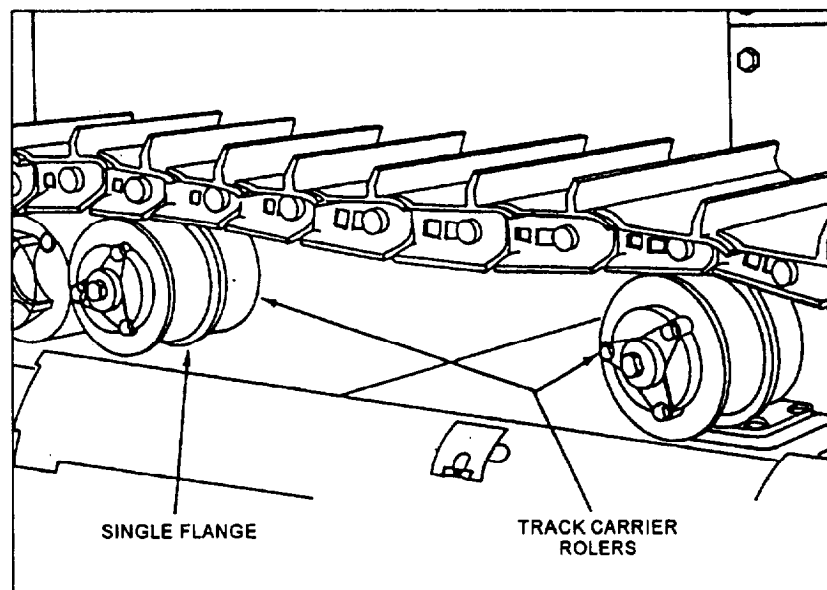

Figure 6-24.—Track carrier rollers.
- Carrier rollers (fig. 6-24) are single-flanged rollers mounted on brackets, which extend above the track frame and supports the track assembly. Two of these rollers are on each side of the tractor. The flange extends upward between the links of the track chain, keeping the chain in alignment between the drive sprocket and the front idler.